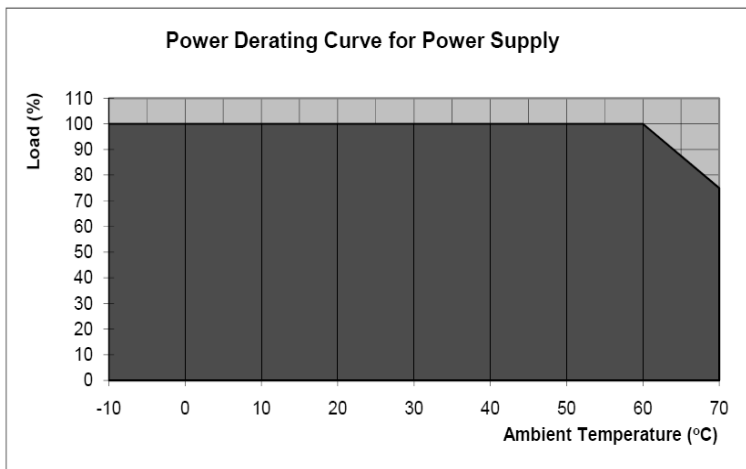

Fig. 1 De-rating for Vertical and Horizontal Mounting Orientation > 60°C de-rate power by 2.5% / °C
1. Power supply components may degrade, or be damaged, when the power supply is continuously used outside the shaded region, refer to the graph shown in Fig. 1.